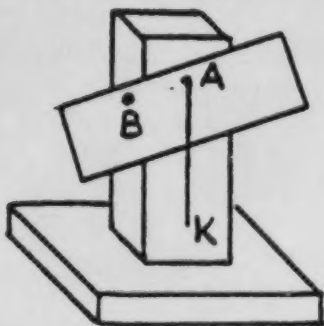

FIG. 1
- B. Hang a rectangle from a nail or pin in the support put through a hole near its edge. Suspend plumb bob from the same nail or pin, and draw a line on the rectangle corresponding to the plumb line. The arrangement is shown in Figure 1 where A is the supporting nail and AK the plumb line.